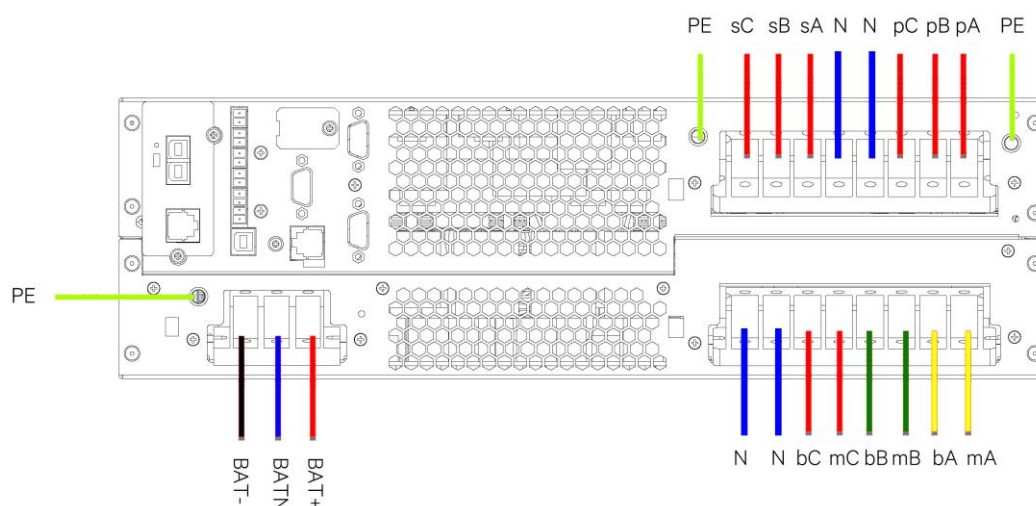

Figure 2-24 Wiring diagram (3-in 3-out, split-bypass configuration)
3. Connect the standard output live wires (phase-A, phase-B and phase-C) respectively to the output terminals sA, sB and sC. Connect the programmable output live wires (phase-A, phase-B and phase-C) respectively to the output terminals pA, pB and pC. Connect the output N line and output PE line respectively to the output terminals N and PE. As shown in Figure 2-24.
4. As shown in Figure 2-24, lead the battery positive cable, battery N cable and battery negative cable through the cable hole of the junction box, then respectively connect them to BAT+, BAT N, BAT- and PE, then fasten the fixing screws.